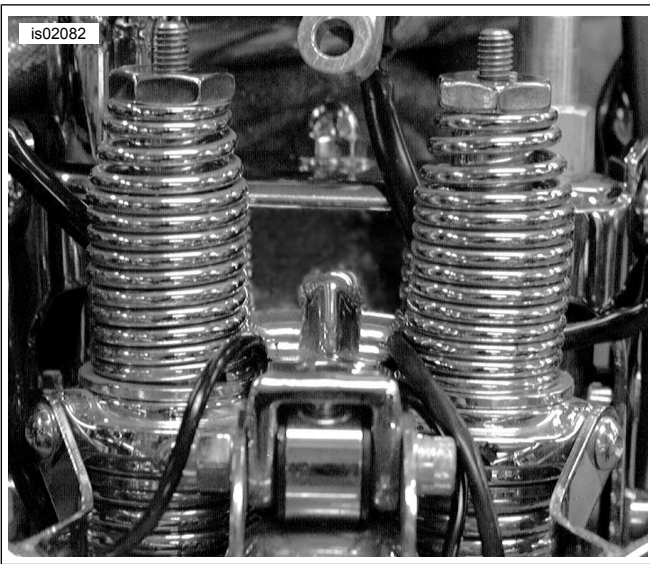

Figure 1. Routing Wires Around Bracket
9. See Figure 1. Slide chrome windshield bracket into place. Keep handlebar wires to outside front of bracket.